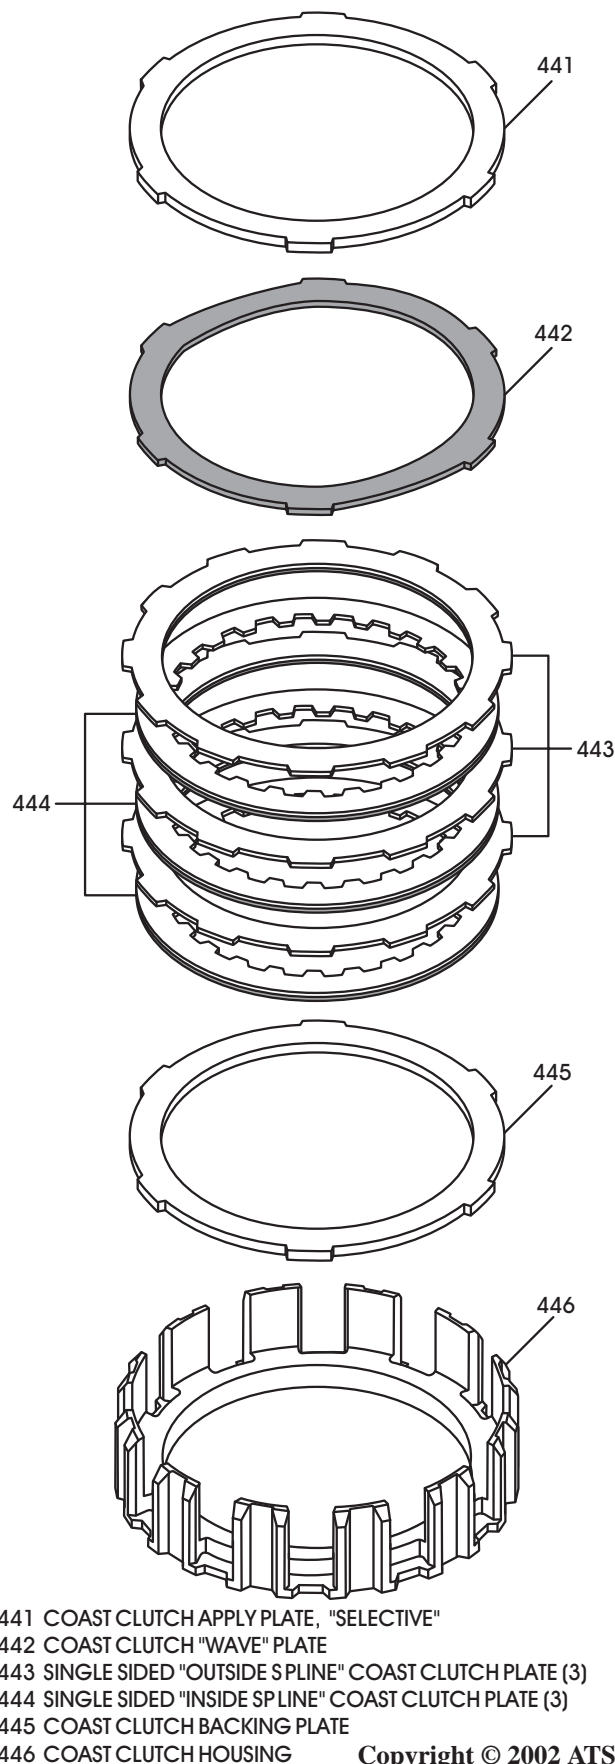

Figure 90
20. Lay the coast clutch housing on a flat surface in the direction shown in Figure 90.
21. Install the coast clutch backing plate into the coast clutch housing, as shown in Figure 90.
22. Install the coast clutch "single sided" plates beginning with an inside spline plate first and alternating with outside spline plates until you have installed 3 of each, as shown in Figure 90.
Note: *In this procedure, lined side must be installed facing down, as shown in Figure 90. Clutch plate amounts may vary by model.*
23. Install the coast clutch "Wave" plate on top of the last outside spline plate in the coast clutch housing, as shown in Figure 90.
24. Install the "Selective" apply plate on top of the wave plate, as shown in Figure 90.